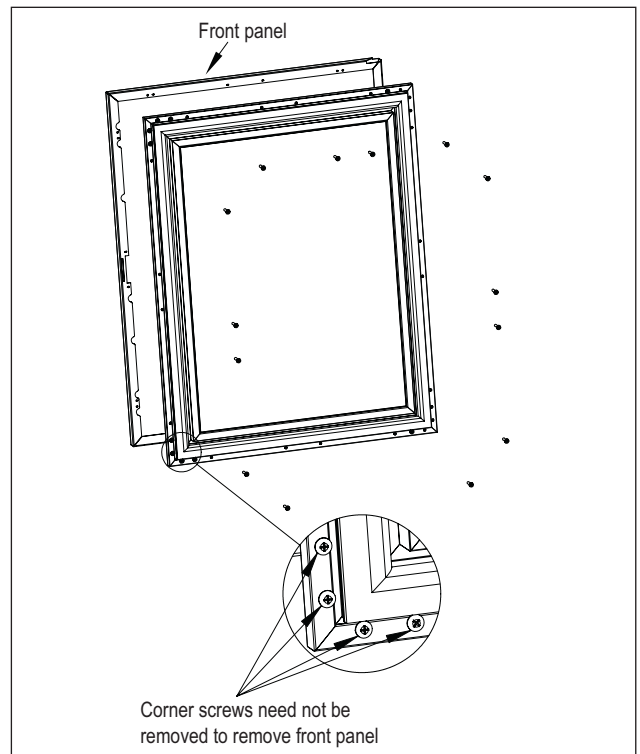

Figure 7. Removing Front Panel
7. Remove the front panel from the door assembly by removing the inner mounting screws, 4 per side, from the perimeter of the door assembly (Figure 7). Rotate the front panel 180°. The top becomes the bottom. Reattach using the same screws and mounting holes.